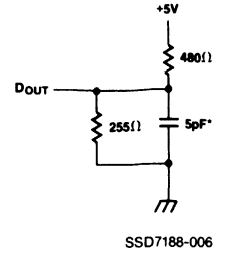

Figure 2. Output Load (for tHZ, tLZ, tWZ, and tOW)
4. Transition is measured  $\pm 200\text{mV}$  from steady state voltage with specified loading in Figure 2. This parameter is sampled and not 100% tested.